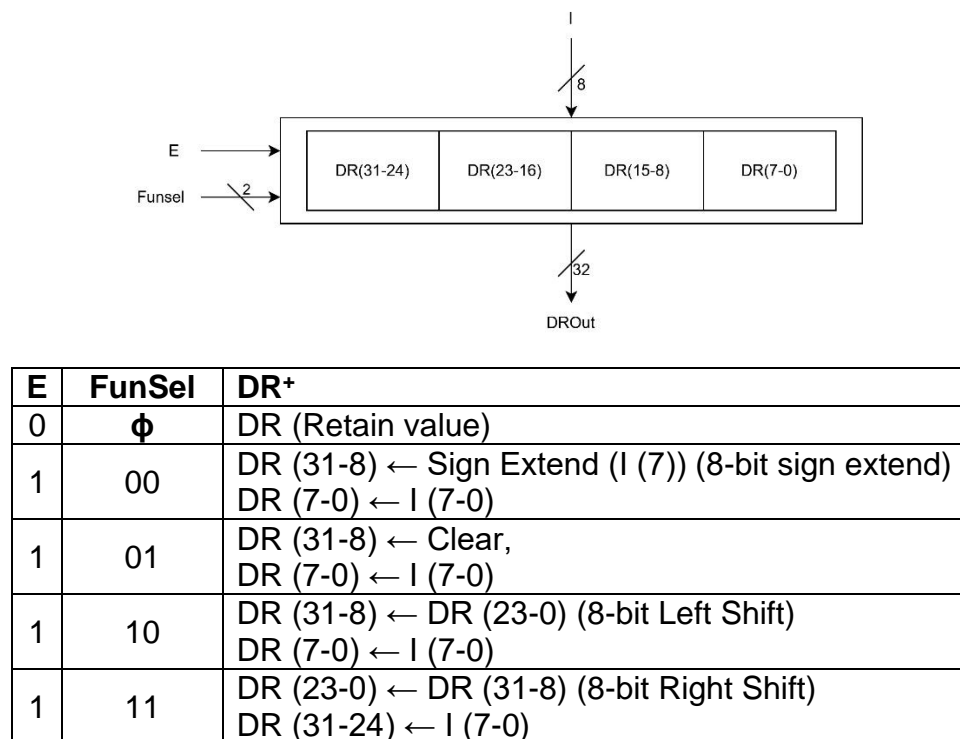

Figure 4: Graphic symbol of DR register and its characteristic table, respectively.
(Part-2b) Design a 32-bit **Data Register (DR)** register whose block diagram and function table are given in Figure 4. This register can store 32-bit binary data. The input data bus of the DR register file, similar to the IR register, is limited to 8 bits. Therefore, only 8 bits of data can be loaded into the register per clock cycle, requiring four cycles to fully load 32 bits of data.
(Part-2d) Design the **Address Register File (ARF)** system shown in Figure 4 which consists of three 16-bit address registers: **program counter (PC)**, **address register (AR)**, and **stack pointer (SP)**.